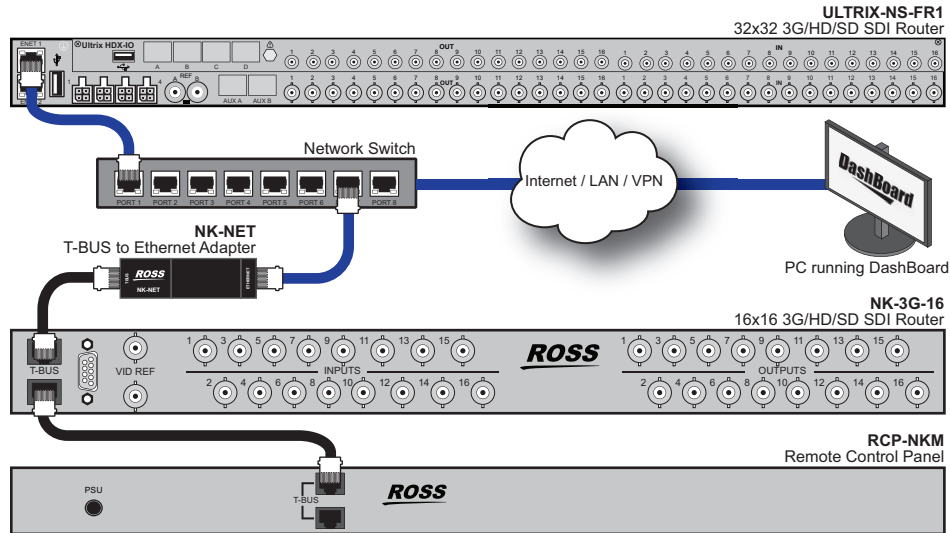

Figure 65 Connection Example with an NK-NET
**Figure 65** provides an example of a routing system with an Ultrix router, an NK-NET, and several Ross NK devices. Communication between the NK-NET and the Ross NK devices is over T-Bus.